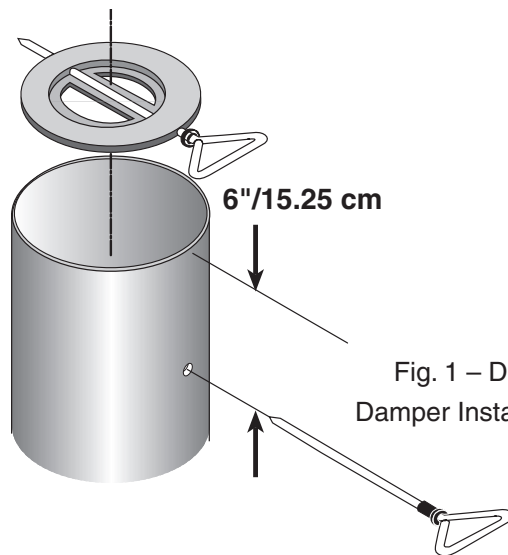

Fig. 1 – Draft Damper Installation
9. Install flue pipe **draft damper** (#20) into the top end of the first straight section of stove pipe (fig.1) exiting the stove **before** the stove is used.
- a. Drill two 1/4" holes centered on either side of the pipe section 6" from the top end of the pipe (figure 1).